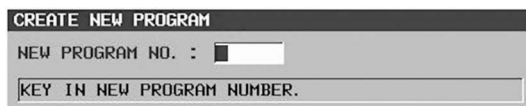

Figure 7-41 CREATE NEW PROGRAM (MC)
1. From the Edit mode, press the NEWPRG soft key (Figure 7-41). **Enter the desired program number** and press the CREATE soft key.